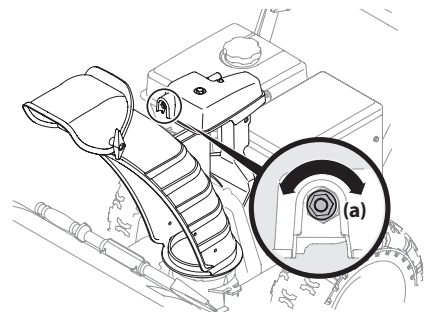

Figure 4-12
1. To increase preload, tighten hex nut (a) clockwise in ¼ turn intervals. The chute control rod will need to be held stationary when tightening the nut. See Figure 4-12.